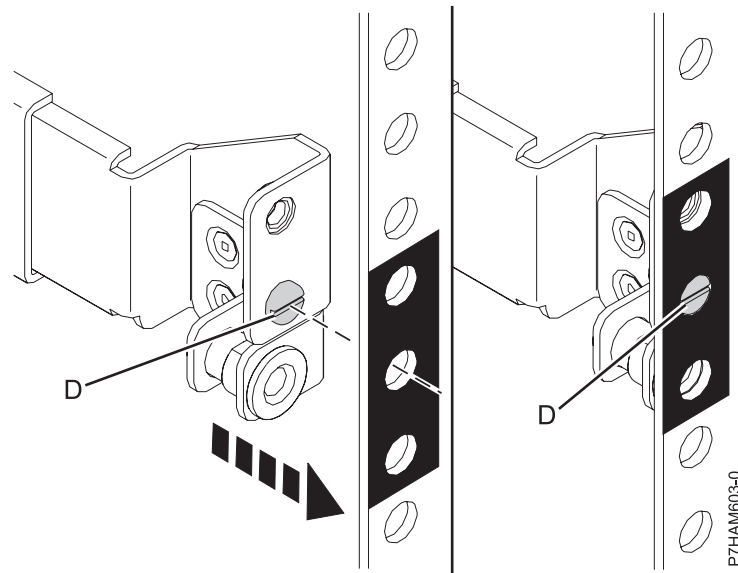

Figure 10. Mounting the rail to the rear of the rack
- e. Seat the alignment screw (D) of the rail into the middle EIA hole that you marked previously, as shown in Figure 10.